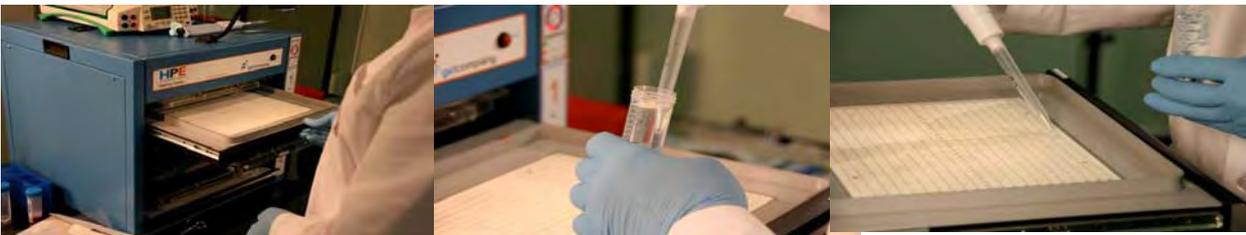

Fig. 5.3: Application of the cooling fluid
4. Apply 4ml of cooling contact fluid onto the center of the cooling plate (fig. 5.3)